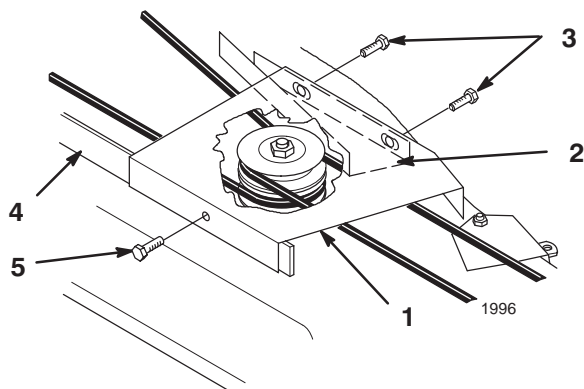

Figure 20
- On 48 in. mowers, mount the belt cover loosely to the outside of the belt cover bracket using 2 flange-head bolts (1/4 x 3/8 in.) and to the rear rib using a flange-head bolt (1/4 x 1/2 in.) (Fig. 20).